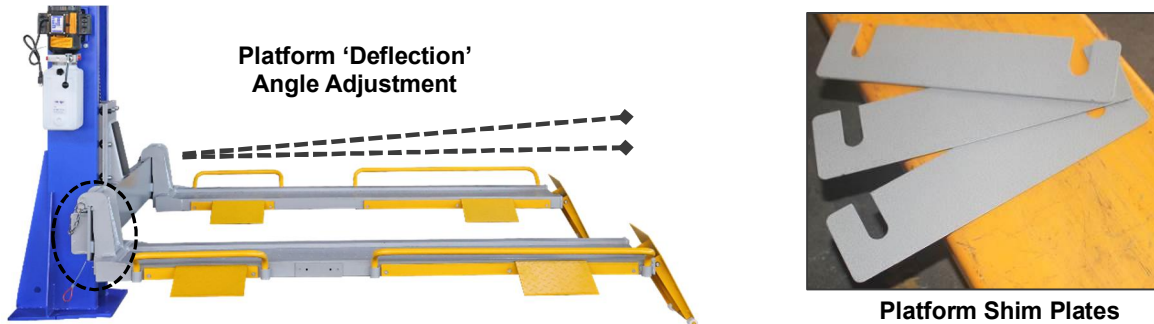

Fig. 14
- ❖ The SC-2K-UTV-X Lift come with the ability to **adjust the platform 'deflection' angle**, based on the type & weight of vehicle(s) being lifted for storage and/or service, along with the position of the vehicle on the platforms. To adjust the platforms deflection angle, use one or a combination of the **3ea different thickness of platform shim plates**, included with Lift. **Fig. 14.**